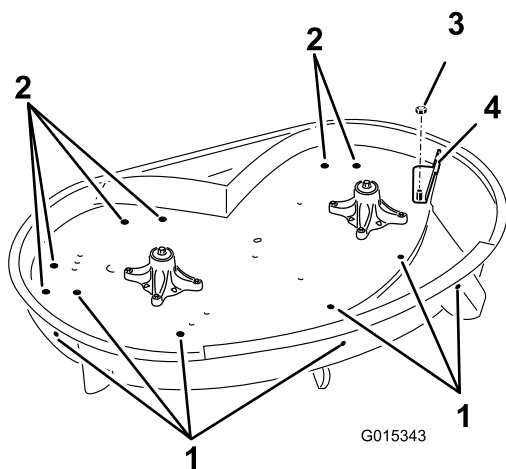

Figure 1
5. Locate the holes illustrated in Figure 1 and proceed as follows:
6. Remove the locknut (3/8 inch) securing the discharge chute retaining rod to the mower (Figure 1). Save it for later use.
7. If the deck has a cutoff baffle installed it must be removed before the Recycler kit can be installed (Figure 1). Retain the cutoff baffle for converting back to side discharge.